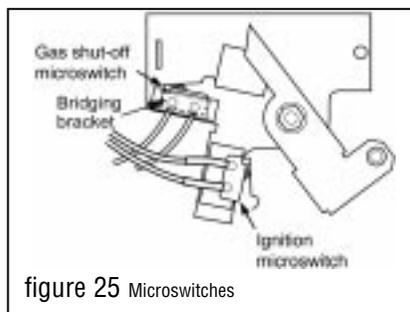

figure 25 Microswitches
- 10.1.3 Disconnect the leads from the ignition microswitch (The lower of the two microswitches - See figure 25).
10.2.4 Detach the bridging bracket, microswitch assembly and insulation pad by removing two screws (see figure 25).